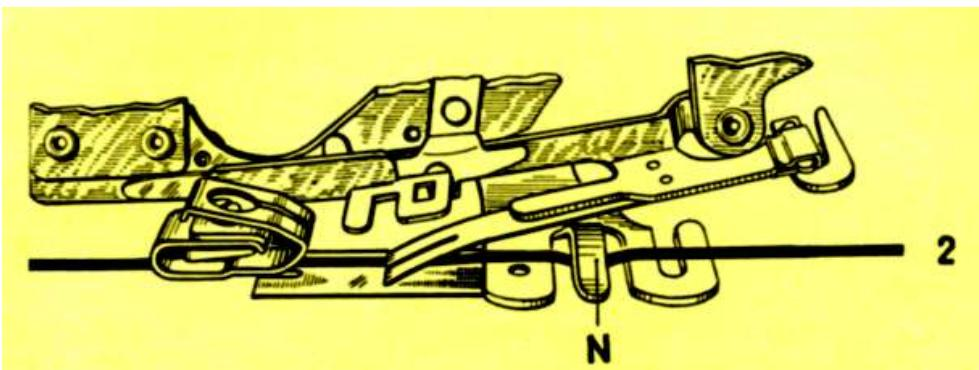

Fig. 16
- 3) Insert material to be ruffled between the two blue blades (Line 2, Fig. 16).